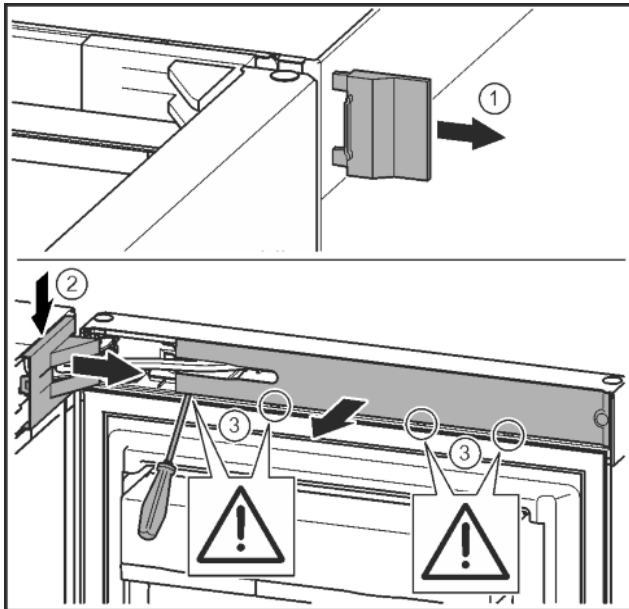

Fig. 9
- Remove the outer cover. Fig. 9 (1)
- Disengage and release the bearing bracket cover. Remove the bearing bracket cover. Fig. 9 (2)
- Unlatch the panel with a slotted screwdriver and swivel it to one side. Fig. 9 (3)